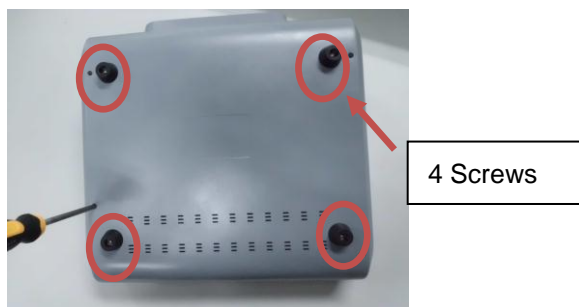

Fig. 1
- 2) Remove the four flat head screws with a screwdriver; (Fig. 1)